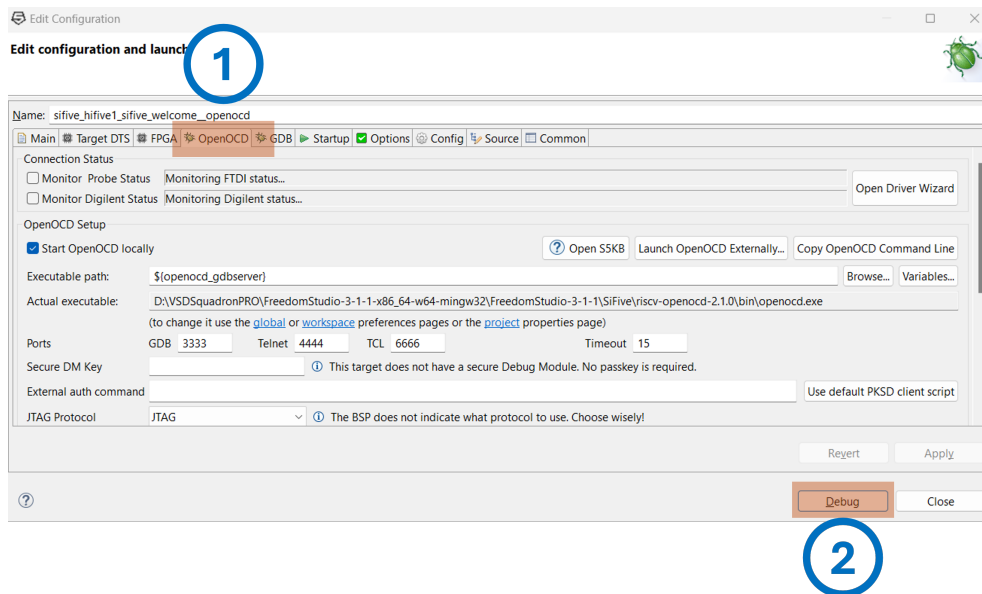

Figure 10: Steps to open debug session using OpenOCD
- Once you click the "Debug" button from above step, you would see the "Debug Configuration" window. Connect VSQSquadron PRO board to your laptop, click on "OpenOCD" tab and then click on "Debug". See Figure 10 for more details